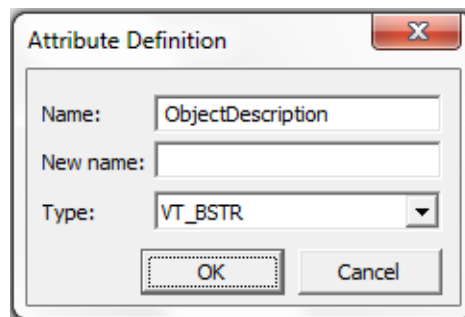

Figure 173. Attribute Definition Dialog Box
6. Specify the **Name** and **Type** for the new attribute and click **Ok**, refer to Figure 173.